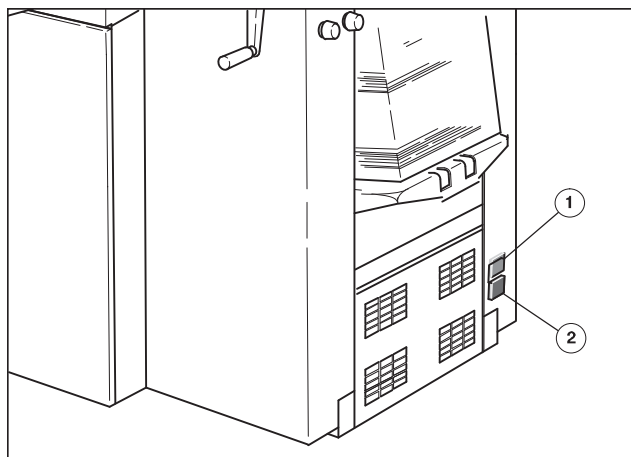

Fig. 62 Ionizing unit switch
1. Switch the ionizing unit off and on with the switch (Fig. 62/1). When switched on, the signal lamp (Fig. 62/2) lights up.